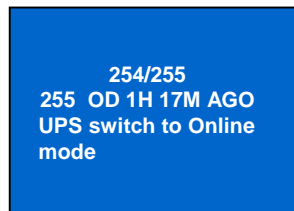

Figure 7-21 ALL LOG screen
1. Select Main Menu -> 4 LOG -> 1 EVENT LOG to enter the EVENT LOG screen, as shown in Figure 7-21.
2. Enter the EVENT LOG screen (see Figure 7-21), and select '3 CRITICAL' to view the fault log.